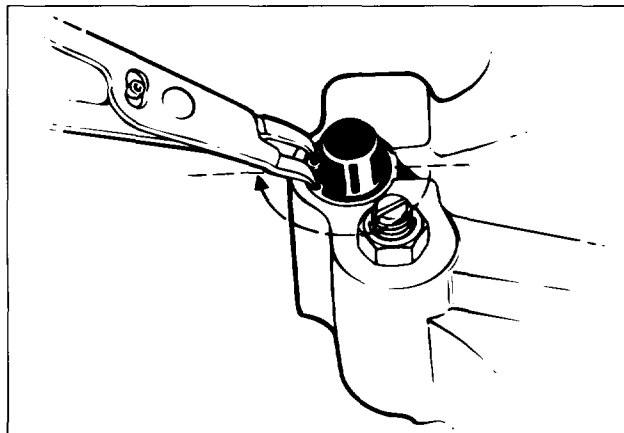

FIG. 6
7. Rotate the retaining ring so that the ears are located away from the slot in the housing as shown in Fig. 6.